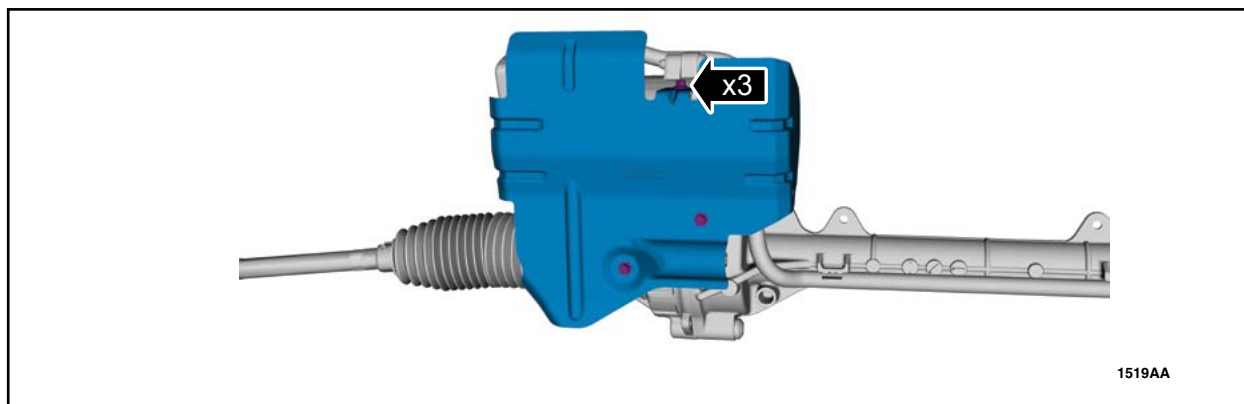

FIGURE 6
3. With the help of an assistant using a pry bar between the subframe and roll restrictor bracket, position the engine forward to provide clearance. Remove the steering gear motor heat shield. See Figure 6.
- With the help of an assistant using a pry bar between the subframe and roll restrictor bracket, position the engine forward to provide clearance. Install the steering gear motor heat shield. See Figure 6.
1. With the help of an assistant, using a pry bar between the subframe and roll restrictor bracket, position the engine forward to provide clearance. Install the steering gear motor heat shield. See Figure 6.